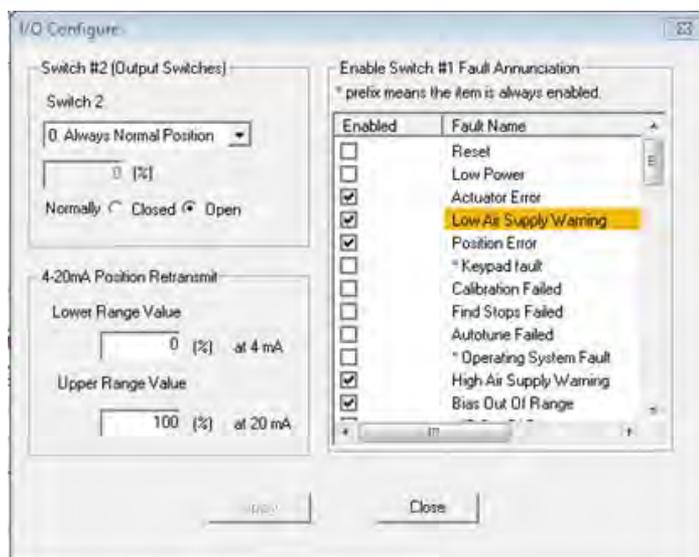

Figure 101 Launching Configure I/O
Click **Configure I/O** on the *Configure* screen and ESDVue launches the *I/O Configure* window (Figure 101). You can change the following configuration parameters:
1. Click **Configure I/O** on the *Configure* screen and the *I/O Configure* window appears (Figure 101).
- Position Retransmit* - See “Position Transmitter (AO)” on page 134 for descriptions of all the I/O settings.